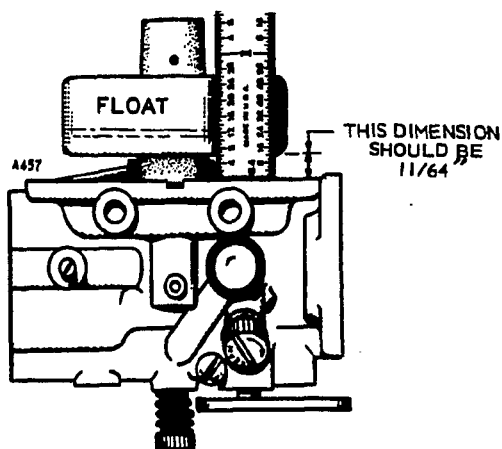

FIGURE 43. FLOAT LEVEL
Check adjusting needles and nozzle for damage. If float is loaded with fuel or damaged, replace. Float should fit freely on its pin without binding. Invert carburetor body and measure float level (Figure 43).
6. Check float level with carburetor casting inverted. See Figure 43.